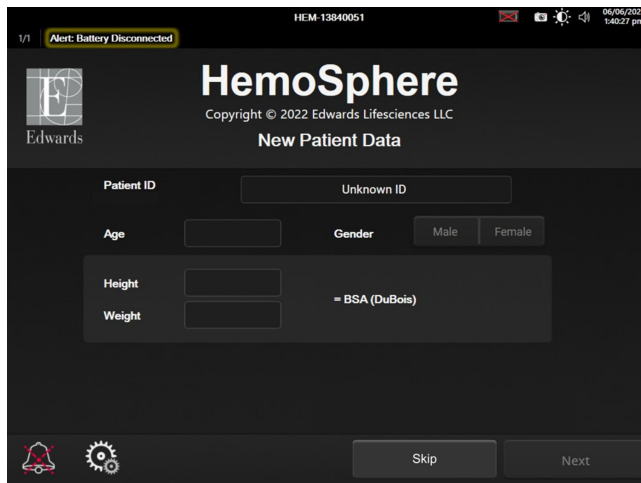

Figure 6-2: New Patient Data screen
5. The **New Patient Data** screen appears. See Figure 6-2 on page 137.